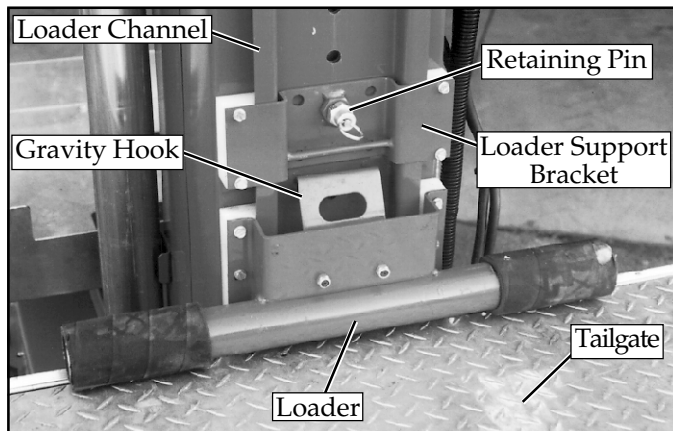

Figure 2-9: Loader in load position
2. Raise the loader support bracket and engage the retaining pin in the top hole of the loader channel (Fig. 2-9).